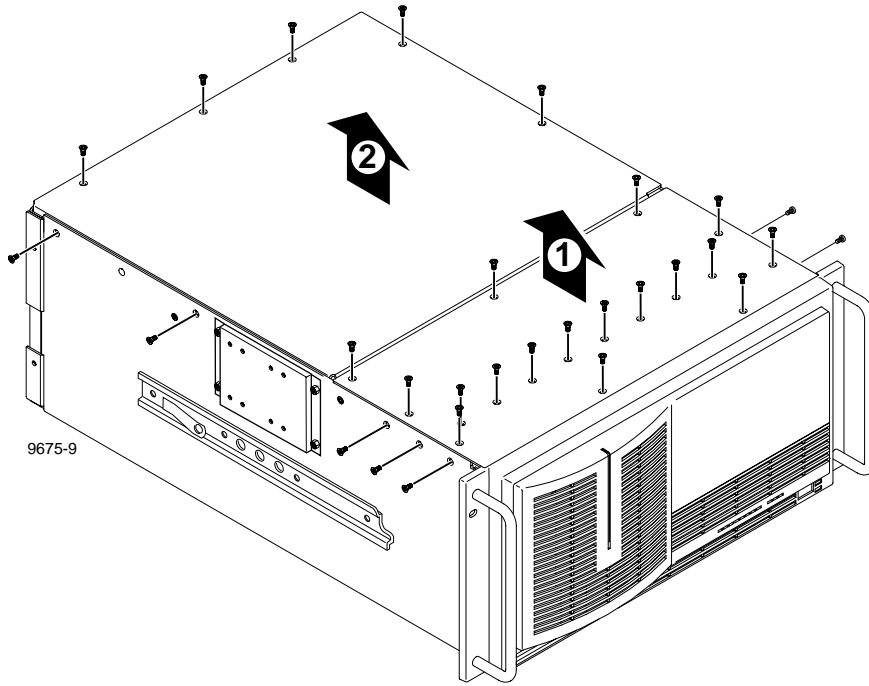

Figure 2. Removing the front and rear chassis covers
3. Use the Torx tool with the T10 tip to remove the top screws from the front chassis cover (❶ in Figure 2) and use the T15 tip to remove the pan-headed side screws. Set cover aside.
4. Use the Torx tool with the T10 tip to remove the rear chassis cover (❷ in Figure 2). Set the cover aside.